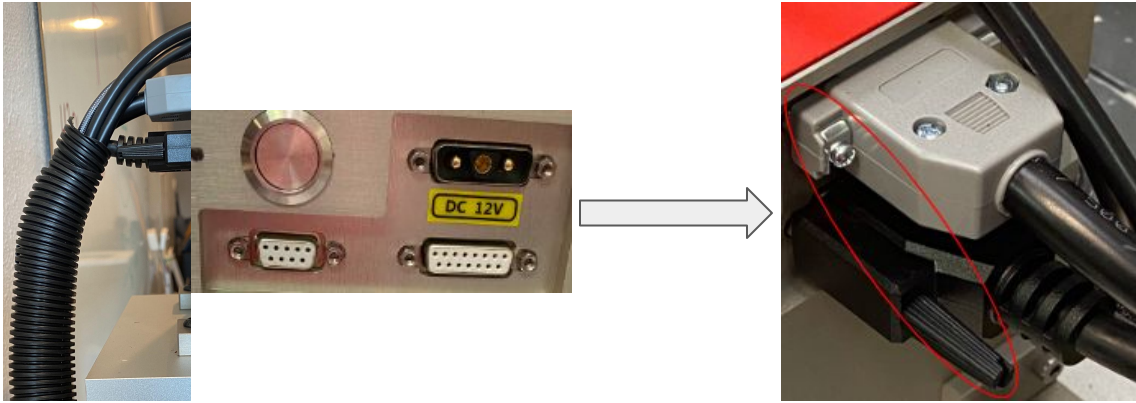

Fig. 4
6. The wire loom has 2 wires that will connect to the 2 ports found behind the source.(see Fig. 4)